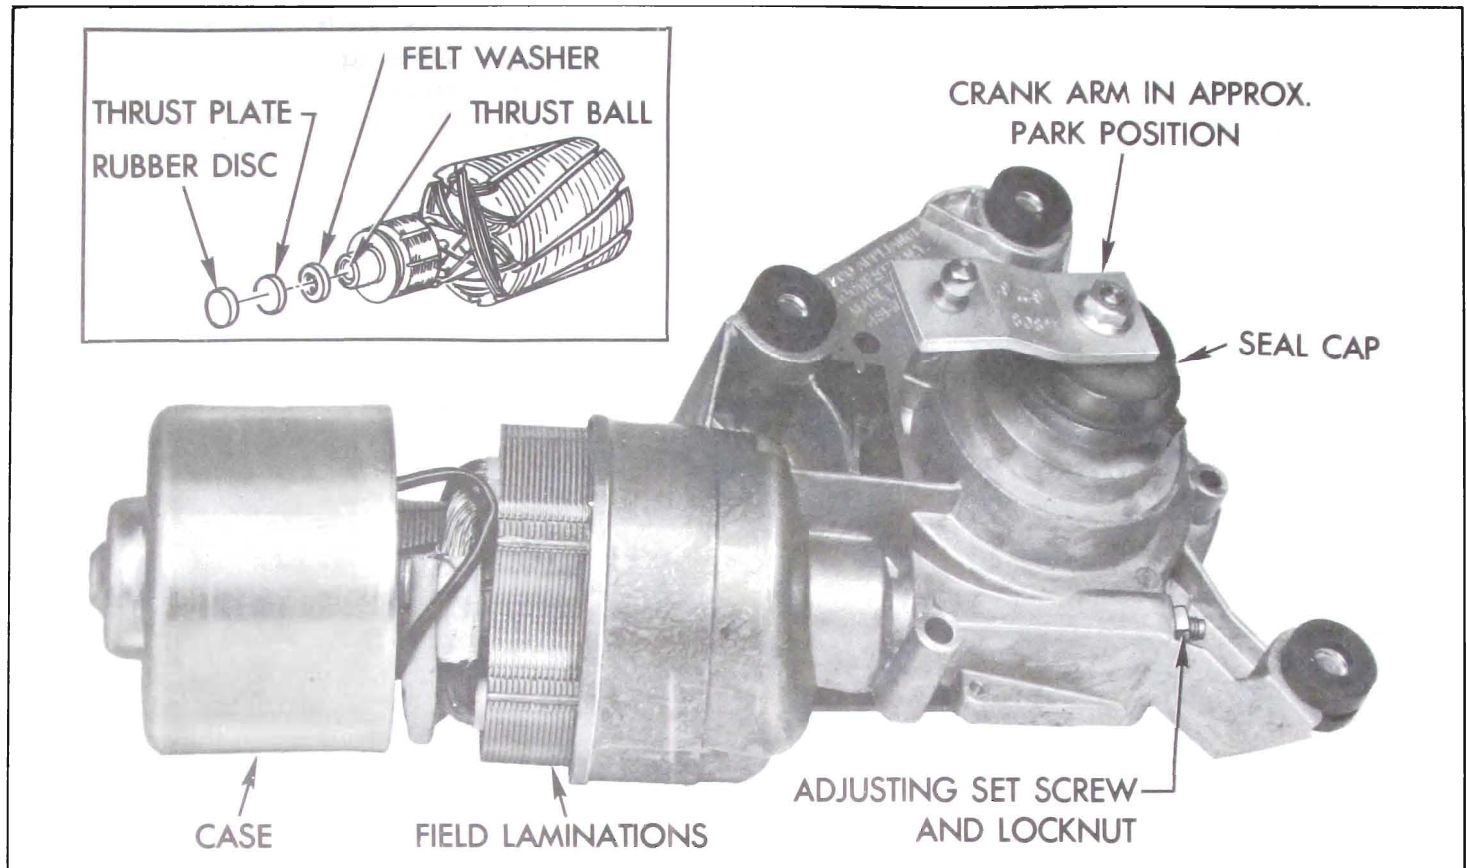

Figure 10-118—Removing Case from Motor Field
through the armature adjusting screw opening. See Figure 10-118. Push against the end of the armature shaft to back off the case. This will retain the armature commutator in position between the brushes until ready to separate the armature from the case.
2. Install rubber thrust disc, steel thrust plate and felt washer in the case assembly bearing in the order indicated. See Figure 10-118.